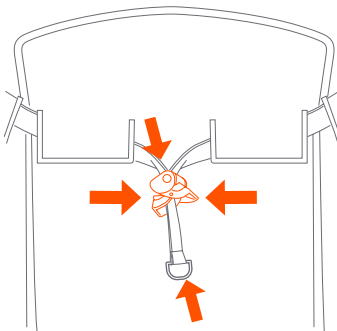

Fig. 6
- 6) • To recline the seat press the clip ends together and pull it down. To put sea into the upright position, press the clip ends together, hold the hoop and push the clip up (Fig 6).